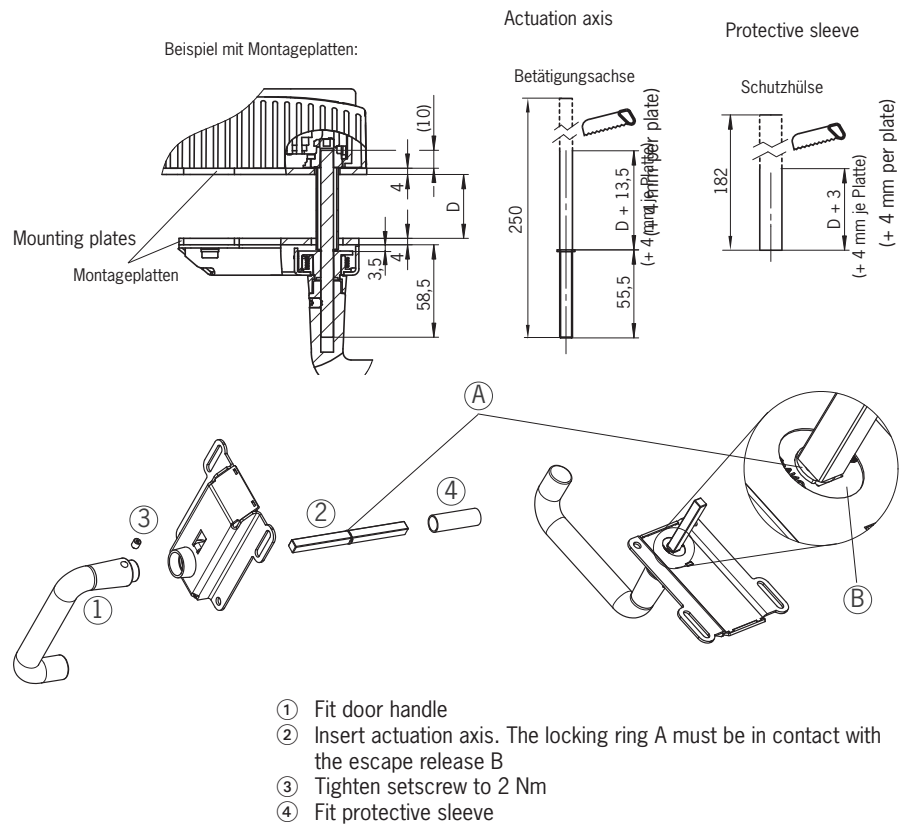

Figure 8: Preparing escape release
- Align escape release axis at right angles to the handle module. See figure on left and Figure 8.